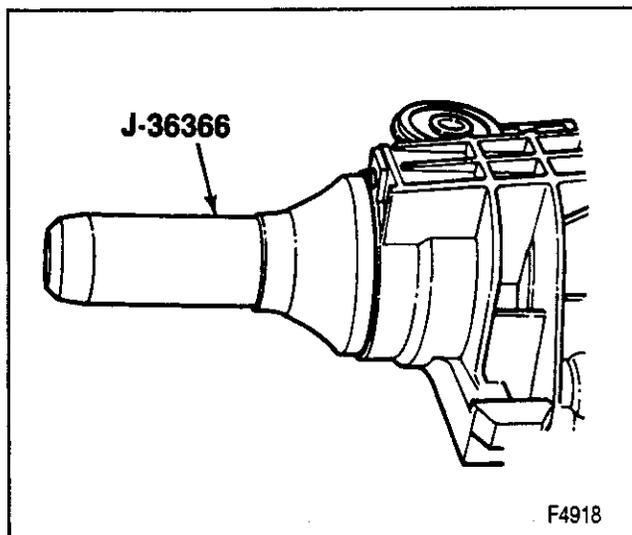

Figure 29—Installing the Pinion Seal
2. Oil seal using J 36366 (figure 29).